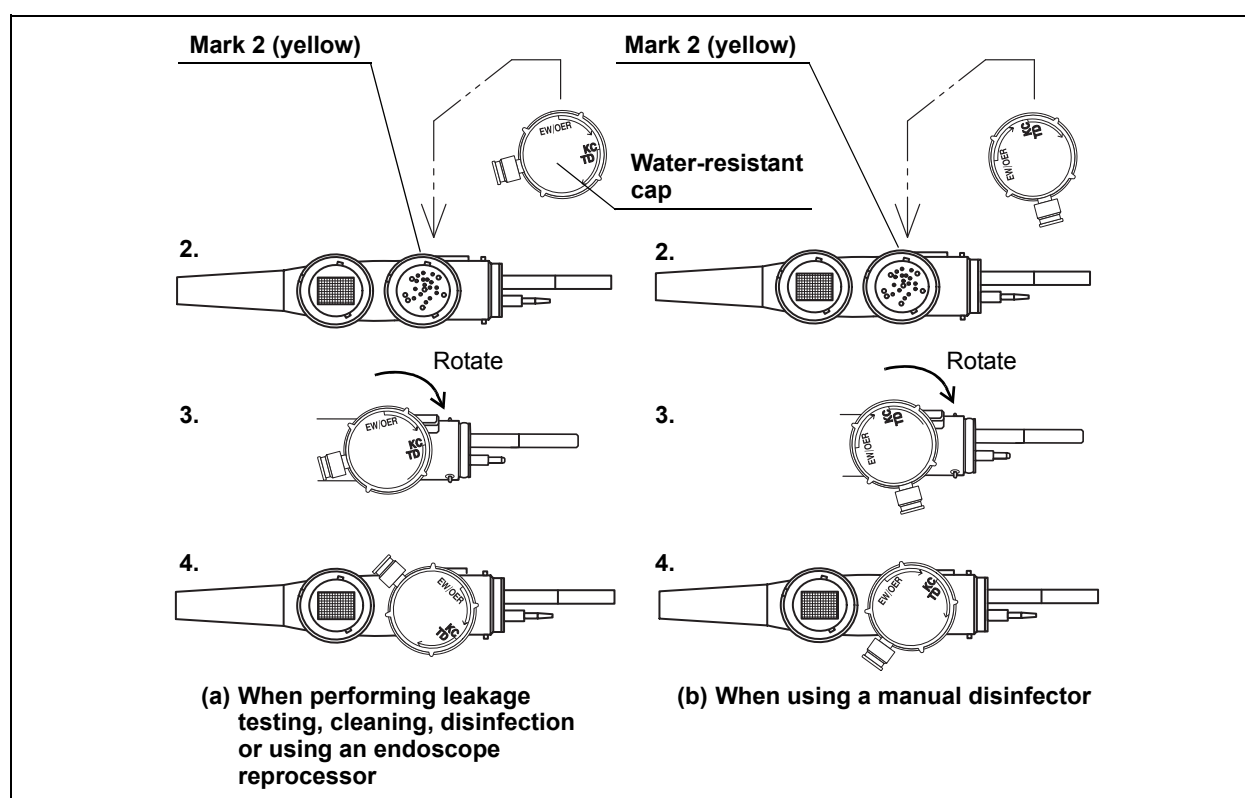

Figure 7.23
2. Align the EW character (see Figures 7.23 (a) and 7.24 (a)) on the water-resistant caps with mark 2 on the electrical connector housing and the ultrasonic cable connector housing. When using a manual disinfectant, align the KC/TD character (see Figures 7.23 (b) and 7.24 (b)) on the water-resistant caps with mark 2 on the electrical connector housing and the ultrasonic cable connector housing.